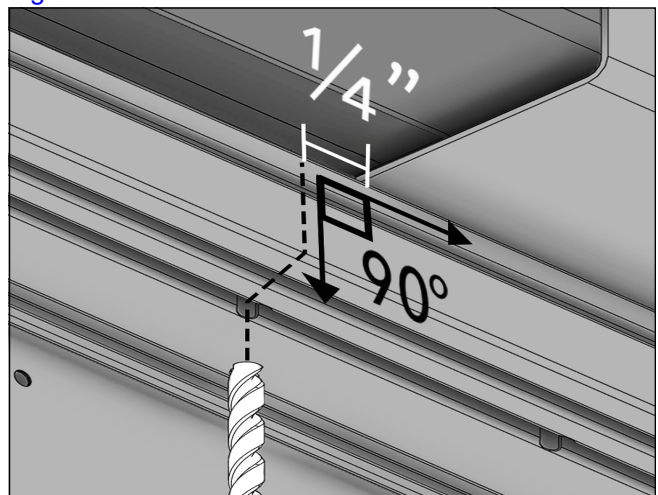
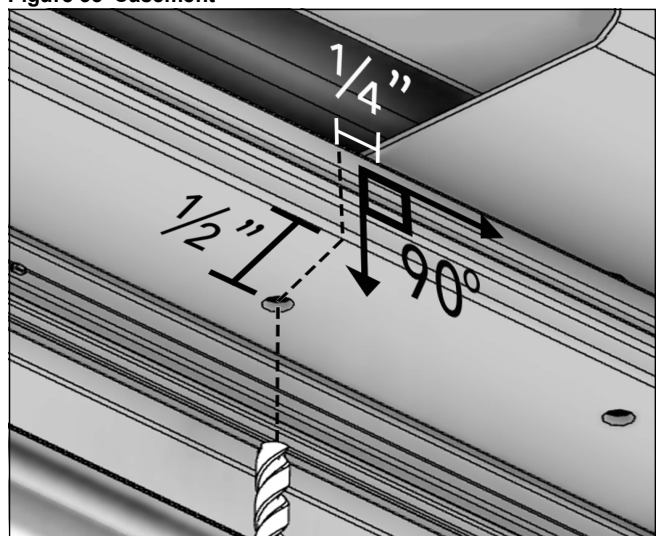

Figure 55 Casement
Figure 56 Direct Glaze
2. Once the interior cover(s) are removed, measure 1/4" off the edges of the gusset. See Figure 55 and Figure 56.